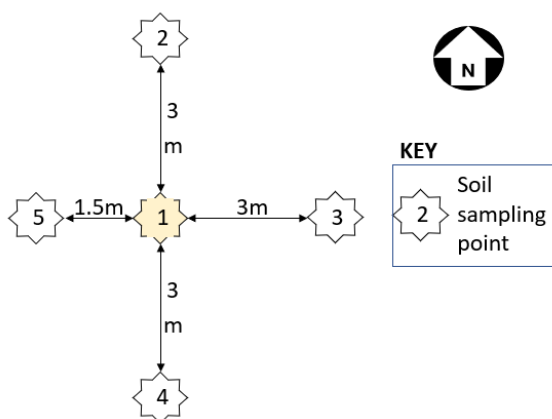

Figure 5. Soil quadrat layout
2. Using the tape measure and sighting with the compass mark out the remaining soil sampling points (Figure 5).